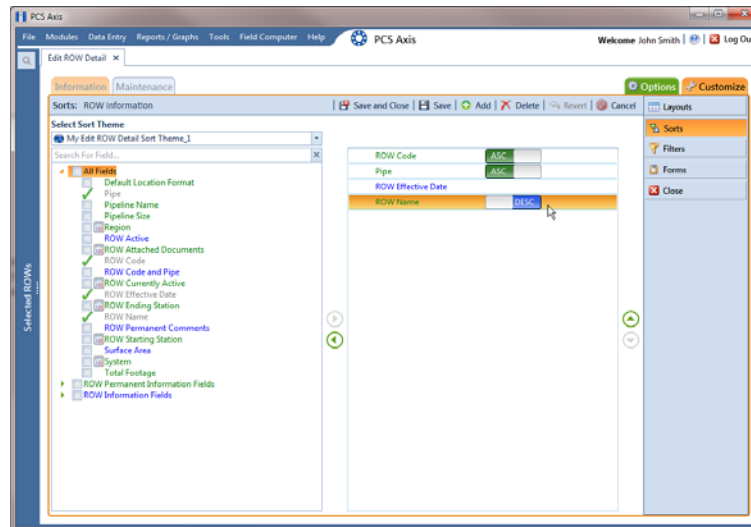

Figure 4-38. Sorts
- 8 Click  **OK** to save changes and return to the *Sorts* page (Figure 4-38, page 137).